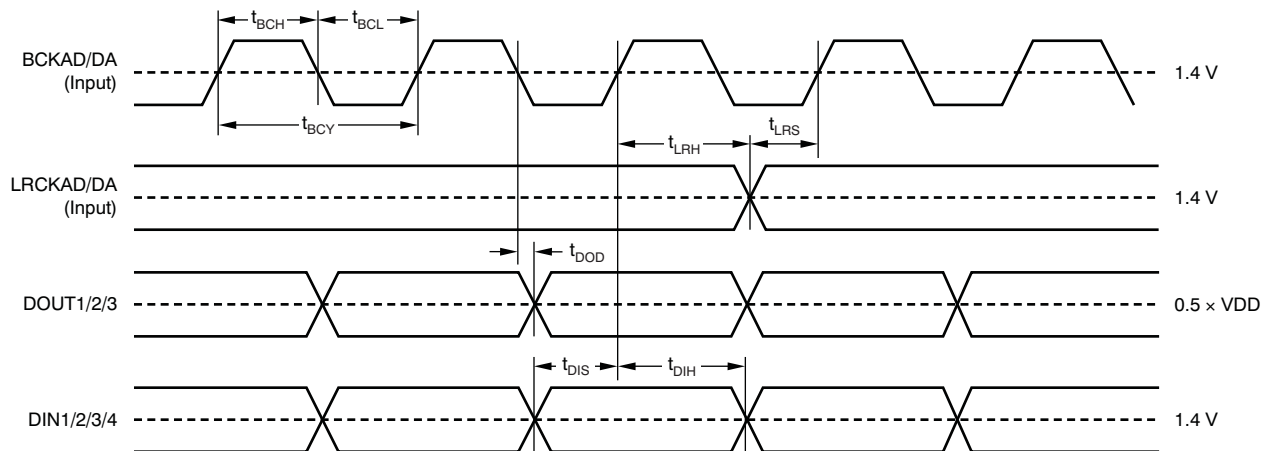
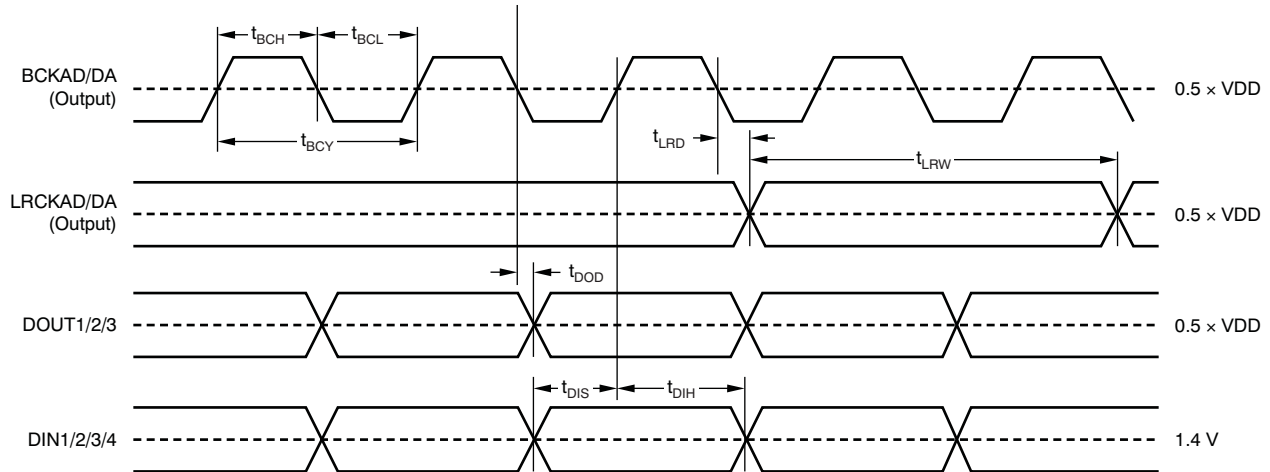

Figure 42. Audio Interface Timing Requirements for Left-Justified, Right-Justified, and I2S Data Formats (Slave Mode)
Figure 45. Audio Interface Timing Requirements for DSP and TDM Data Formats (Master Mode)
Figure 42 through Figure 45 describe the detailed interface timing specifications.
Table 9. Timing Requirements for Figure 42(1)
Timing Requirements for Figure 45(1)